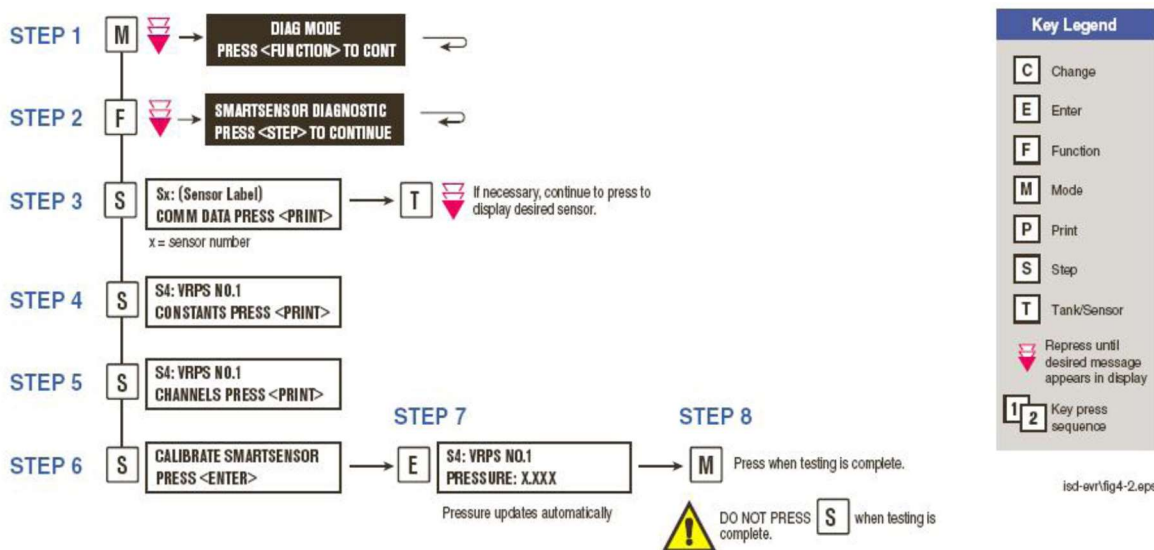

Figure 10-6
- 3.6. If the Vapor Pressure Sensor is located at the vent stack, the UST pressure must be determined at the vent stack test port as shown in Figure 10-6.
- i. A test port and female quick connect fitting shall be installed on the plumbing fixture below the Vapor Pressure Sensor enclosure as shown in Figure 10-6. A Swagelok, part number SS-QC4-PM, quick connect fitting or equivalent can be used.
For gasoline dispensing facilities equipped with the TLS 450PLUS and Veeder Root Vapor Polisher Processor or the Healy Clean Air Separator, access the current vapor pressure sensor reading as indicated in Figure 10.6.
For gasoline dispensing facilities equipped with the TLS-450PLUS and the Veeder-Root Polisher or the Franklin Fueling Systems Healy Clean Air Separator, press home to leave Vapor Pressure Sensor Overview (ref Figure 10-6).